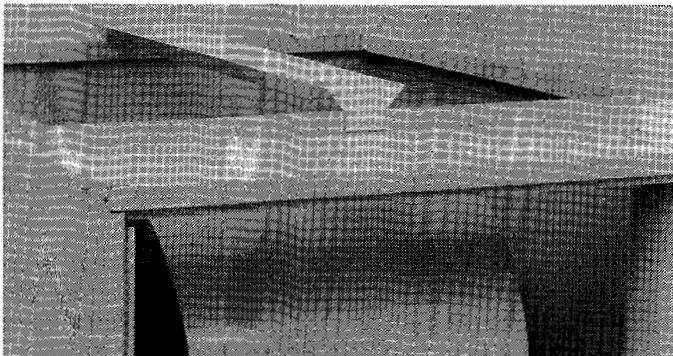

Fig. 11A — Furnace-mounted Filter Rack
1. Install the filter rack by centering it over the plenum flange and pushing down firmly. (See Figure 11A.) Do not screw into place yet, as the return air plenum will need to be attached.